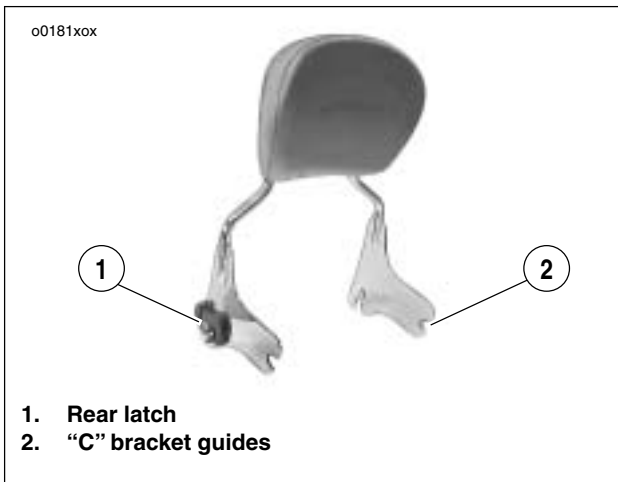

Figure 2-32. Detachable Passenger Backrest
2. See Figure 2-32. Push in the spring-loaded locking latch and pull the swivel latch rearward on the passenger backrest.